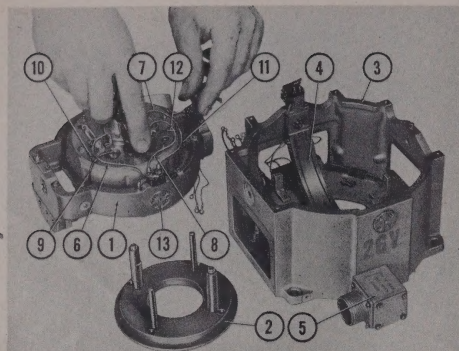

Figure 169 — Lifting Rotor and Case and Cardan Assemblies from Housing
(b) (See figure 169.) Grasp rotor and case and cardan assembly by the erecting cut-out gears with one hand; and, steadying cardan with the other, lift the assembly from the housing. Remove rotor case stand (2) from under the gyro housing; place under rotor case.
(n) (See figure 169.) Lift out counterbalance guide channel (4).
(6) REMOVE BEARING FROM CARDAN AND COUNTERBALANCE GUIDE CHANNEL.
(7) REMOVE ROTOR AND CASE ASSEMBLY FROM CARDAN ASSEMBLY.
(a) (See figure 169.) Disconnect both ends of rotor case-to-cardan ground lead (6) and remove flex lead. Disconnect both ends of motor flex lead (7) and erecting cut-out flex lead (8) and remove flex leads.